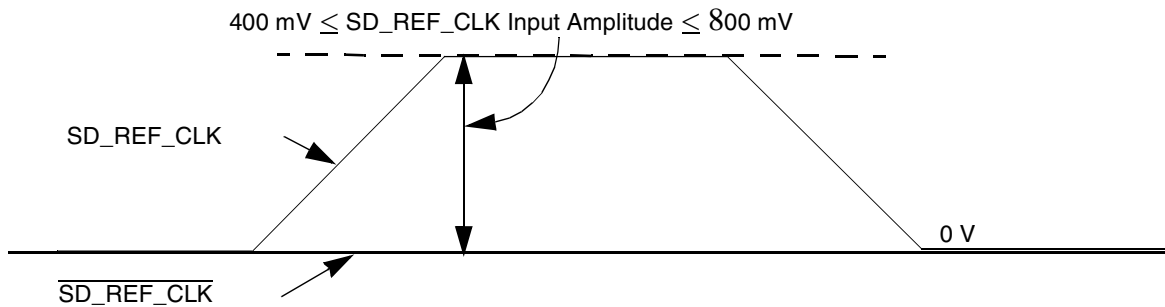

Figure 43. Single-Ended Reference Clock Input DC Requirements
- The `SD_REF_CLK` input average voltage must be between 200 and 400 mV. Figure 43 shows the SerDes reference clock input requirement for single-ended signaling mode.